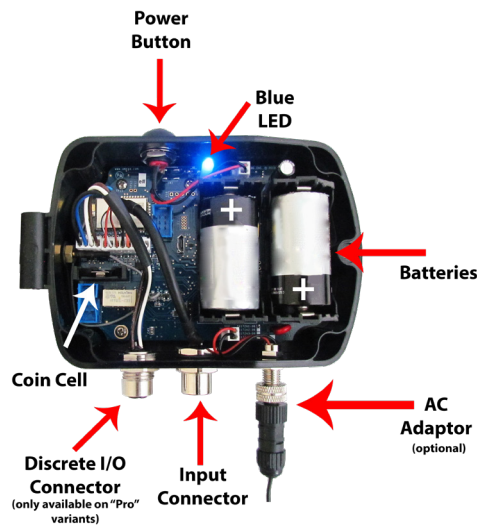

Figure 2
**Step 2:** Remove the pull-tab from the coin cell. See **Figure 2**.
**Step 3:** Install the batteries or plug in the optional **AC Adaptor**. See **Figure 2**.
**Note:** Take note of the battery orientation of the device as displayed in **Figure 2**.